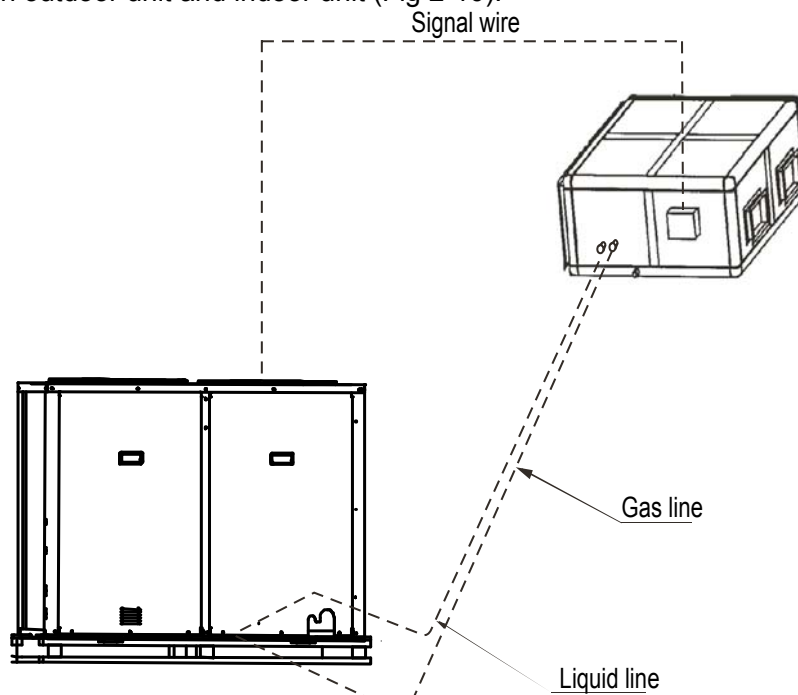

Fig 2-10
4.7 Connection between outdoor unit and indoor unit (Fig 2-10).